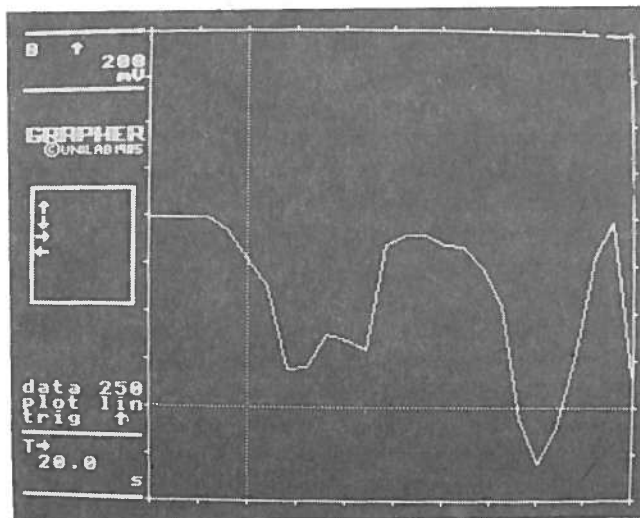

Fig.12
d) abstract information about X & Y co-ordinate values, gradient and areas from graphs, using cursor lines. With educational software, this is a unique and extremely useful set of graph-analysis commands (Fig.12).